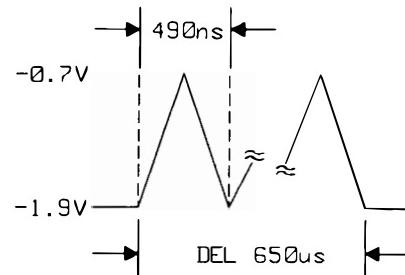

Figure 10.3-12. Delay Generator ramp signal pin 20
- Check the ramp signal at pin 20 of U220 against Figure 10.3-12.